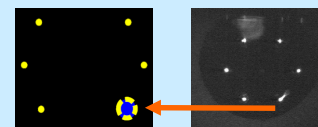

Fig. 2
- If a measurement point is not correctly identified, a **blue flashing dot** will appear. A further measurement should be taken as a precaution. (Fig. 2).